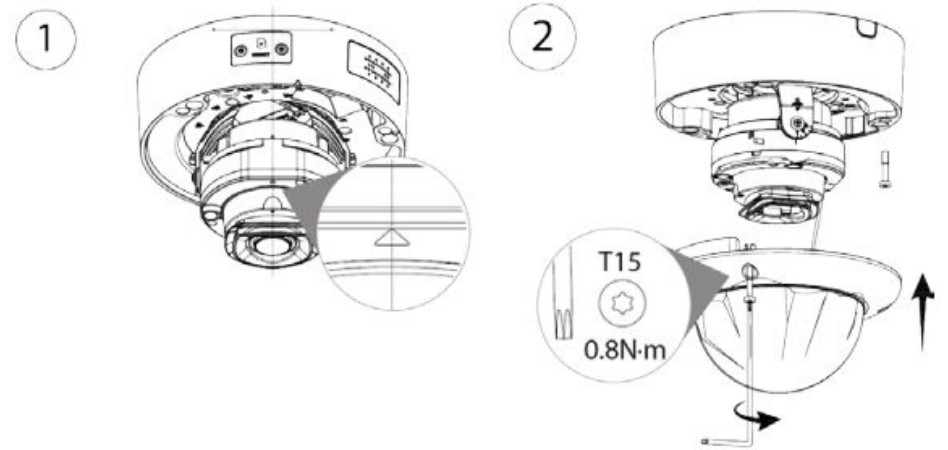

Figure 2-6
Step 5: Re-installing Dome cover: Replace the dome cover after mounting the camera, see Figure 2-6.